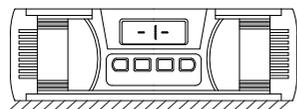

Fig.1
- Put the instrument on sea level, press "ON/OFF" and "HOLD", enter into calibration mode,"-1-" appears(Fig.1). Press "ON/OFF", "-1-" blinks. Do not touch the instrument until "-2-"appears(-Fig.2).